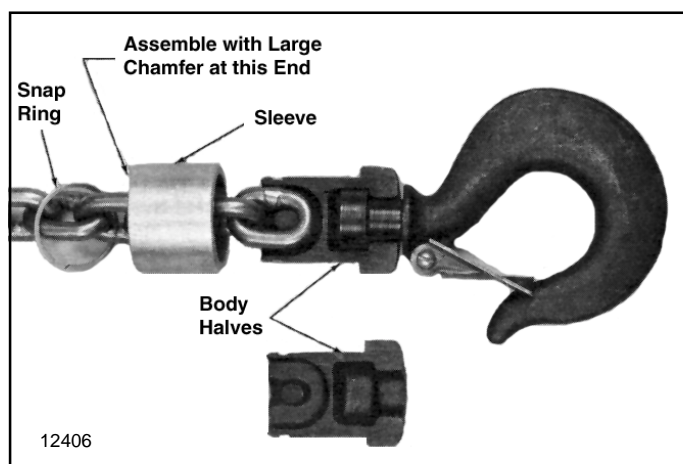

Figure 7-1. Lower Hook Connection
a. To remove hook from end of load chain on single load chain hoists, remove snap ring at top of sleeve, slide sleeve from body halves and separate parts. See Figure 7-1.